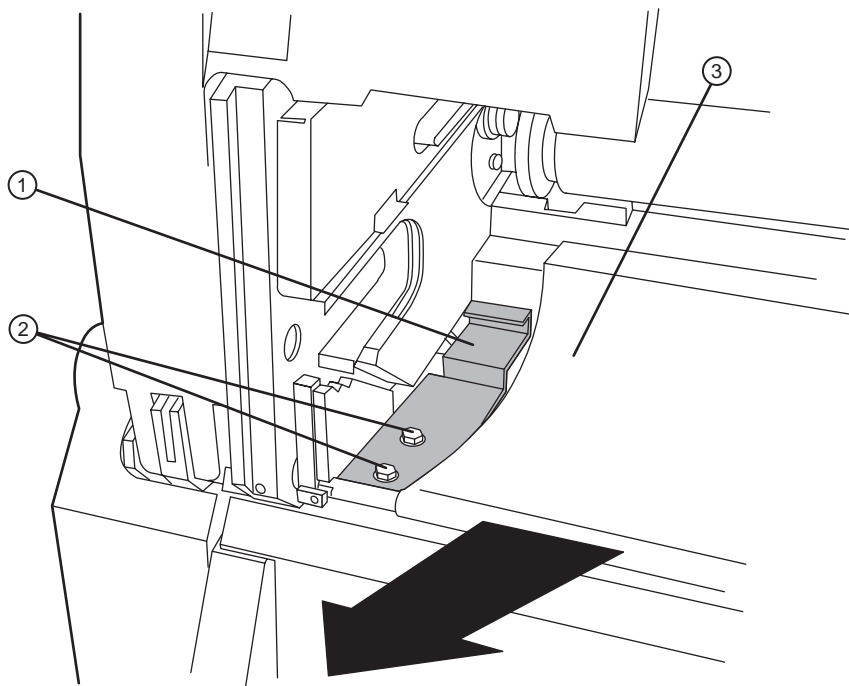

Figure 1-13 Removing the lower media transport retainer bracket.
7. Locate the lower media transport Retainer Bracket (black) in the lower left of the exposed unit. Remove the two (2) bracket hex screws. Refer to Figure 1-13.